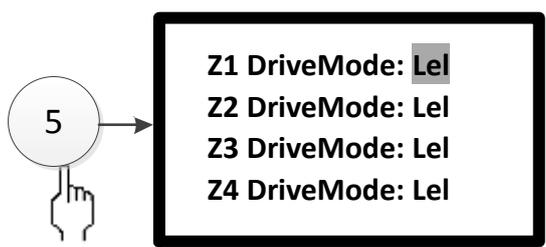

Fig. 3-31
⑤ Valve Drive
Enter the screen as shown in Fig. 3-31 by pressing number 5 or moving cursor to select ⑤. Pressing Up and Down key selects a zone. Pressing Left and Right key can switch between “Level” and “Pulse”. Press “F1” to save the setup and then returns to the previous menu.